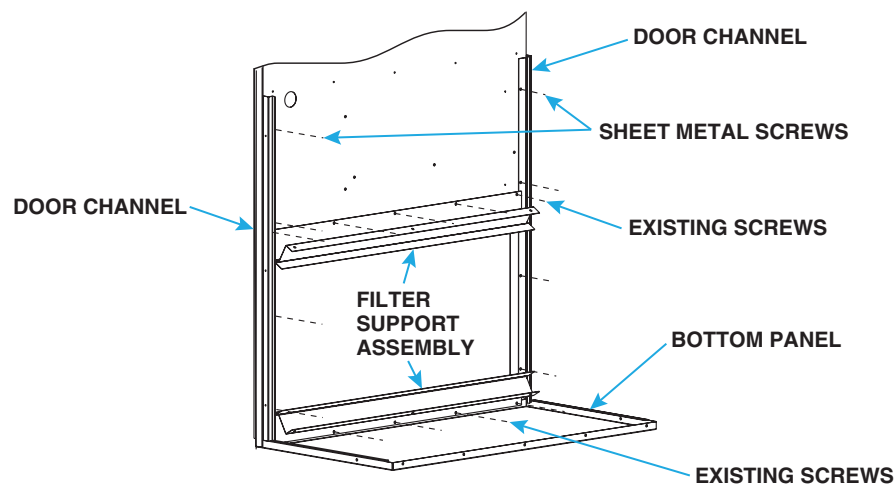

Figure 9. Install Bottom Panel and Filter Support Assemblies
2. Install two door channels, two filter support assemblies, and bottom panel as shown in Figure 9: